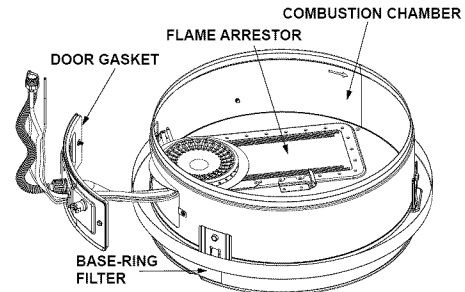

**FIGURE 37.**
7. Route the new pilot tube, new igniter wire and new thermopile wire through the opening in the manifold door (Figure 37).
9. Reinstall the manifold component block in the manifold door (Figure 37).
7. Connect the white (-) thermopile wire to the gas control valve/thermostat. Then connect the red thermal switch wires to the thermal switch on the on the manifold door. (Figure 37).